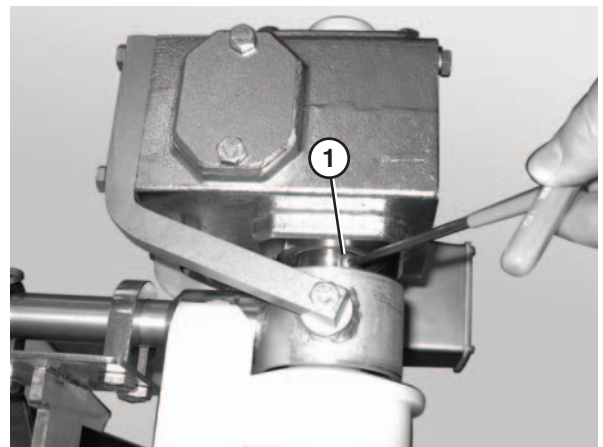

Figure 58
1. Loosen the button head screws (**Figure 58, item 1**) that connect the gearmotor to the drive spindle.